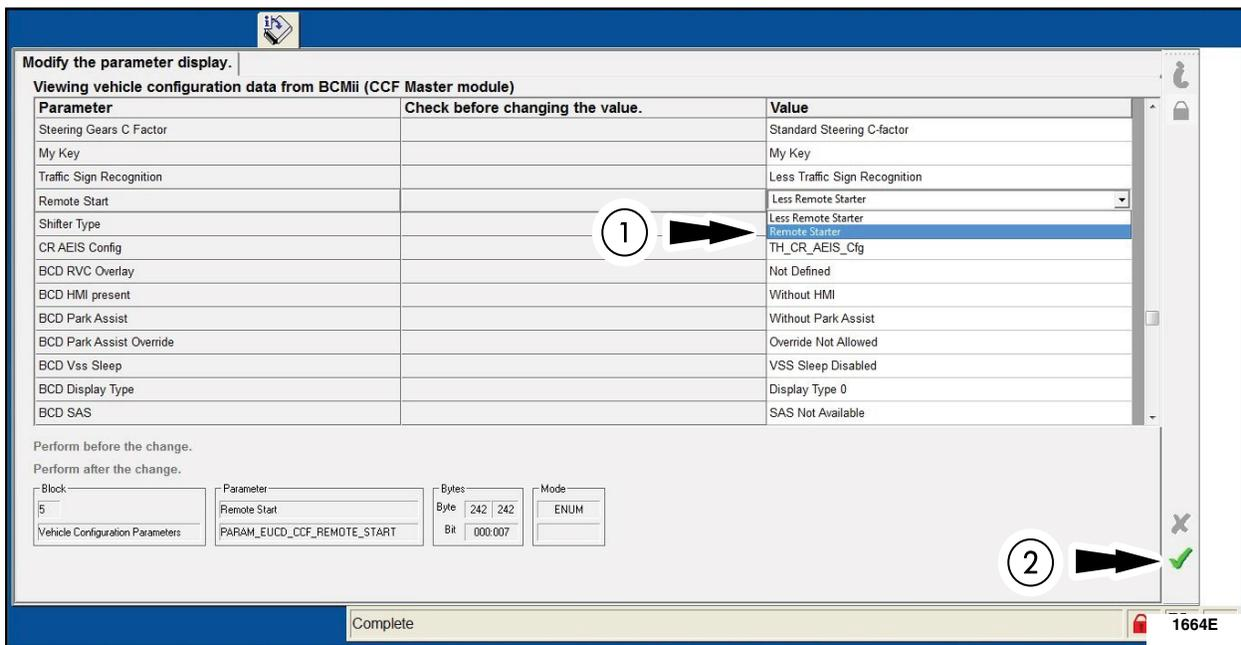

FIGURE 4
4. Identify the Remote Start parameter and change the value from Less Remote Starter to Remote Starter. Click the tick mark to download the data into the vehicle. See Figure 4.